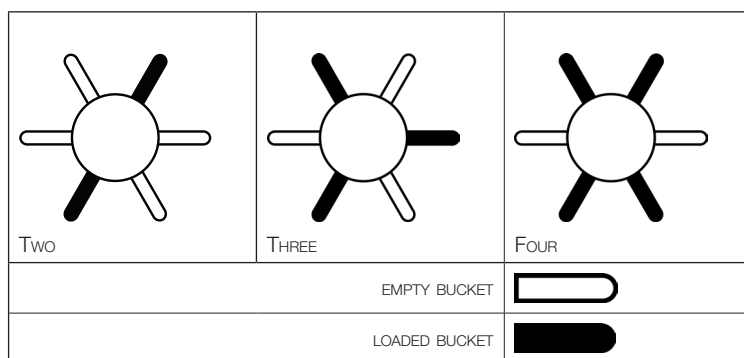

Figure 2 – Rotor Balancing
NOTICE The rotor may be run with two, three, four, or six tubes. If six tubes are not required or if not all tubes will have identical contents, consider how the tubes must be configured in the rotor, so that the rotor will be balanced. Buckets are to be run empty if less than six tubes are used (Figure 2 – Rotor Balancing).
4. Carefully place the tubes into the buckets so that opposing bucket numbers (1 & 4, 2 & 5, and 3 & 6) contain similar loads. If running three tubes (see Figure 2 on page 22), all three must contain similar loads.